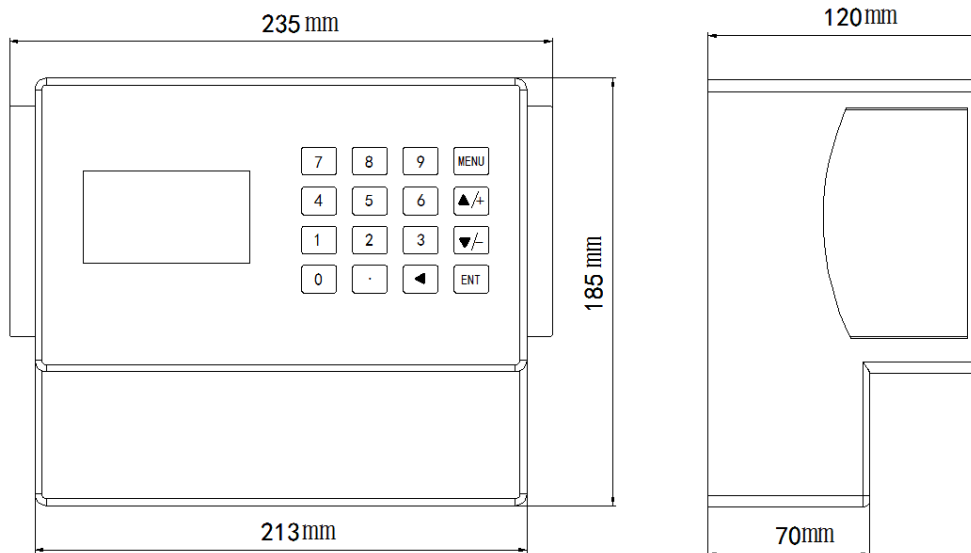

Figure 3.1 Mechanical Dimensions
3. Mounting: Refer to **Figure 3.1** for enclosure and mounting dimension details. Ensure that enough room is available to allow for door swing, maintenance and conduit entrances. Secure the enclosure to a flat surface with four appropriate fasteners.